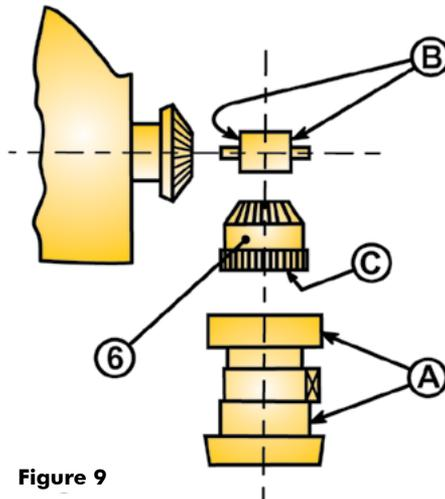

Figure 9
B) Sometimes it can happen that a small piece of metal or burr enters among the gears, or a piece of the propeller has been dinged; in this case the blade movement can become hard. It is necessary then to do as follows, referring to figure 9.
I) Open the propeller and assemble it again after having taken the central cone gear (6) out, so that the blade and the hub rotation are independent. If the hub rotation is hard, remove 0.01mm from surfaces "B" of the spacer using emery cloth wrapped around a flat file. Try until both hub and blades rotate freely.